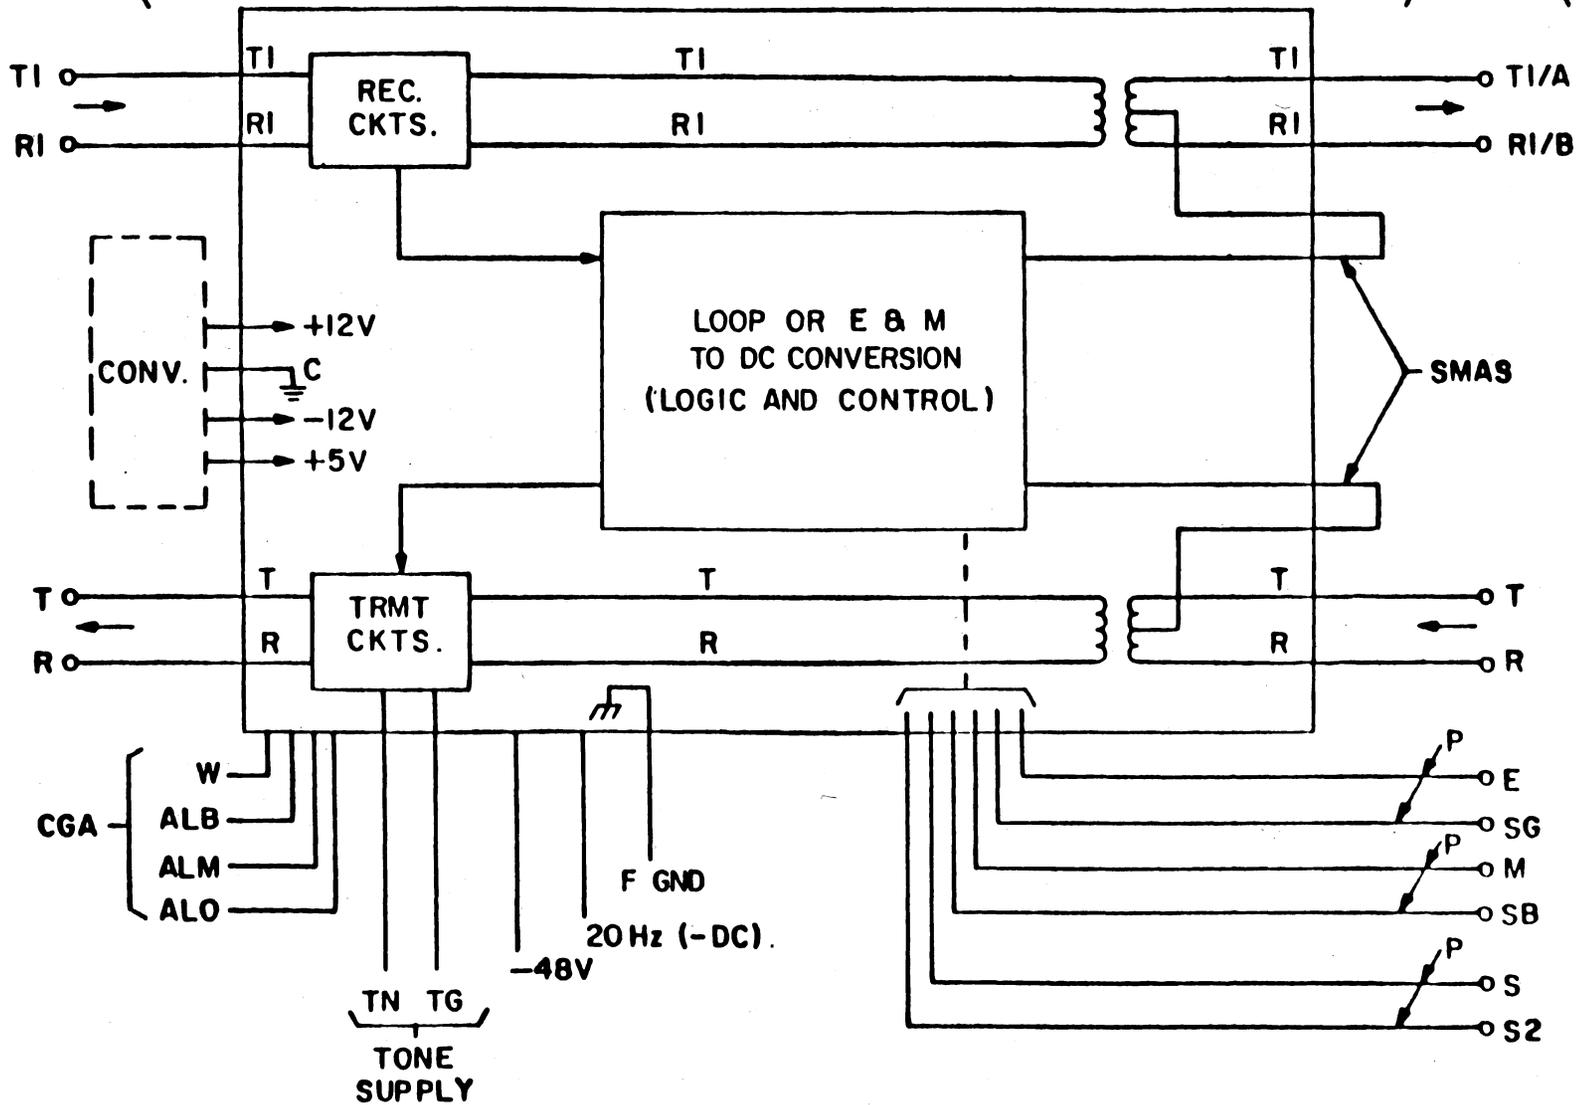

Fig. 5—G-Signaling Lead Plan
1.24 G-signaling has a standard lead plan making each of the 24 G-signaling slots capable of receiving any G-signaling plug-in for any application. See Fig. 5. On the line side of the connector are 4 transmission leads from a G plug-in which terminate on the distribution frame for standalone bays. On the drop side are 10 leads which terminate on the distribution frame for all bays. The set of 10 drop side leads is the maximum needed by any one G-signaling plug-in. The four-wire E & M units require 4 leads for transmission, 4 leads for looped E & M, and 2 make-busy leads, this being the maximum requirement. Fewer drop side leads are required for the other G-signaling plug-ins.